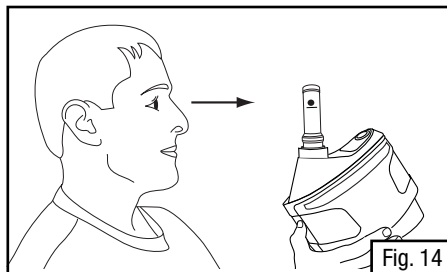

Fig. 14
- With the airflow indicator in a vertical position, ensure that the bottom of the floating ball rests at, or above, the minimum flow mark (Fig. 14). Airflow indicator must be in the vertical position for an accurate reading.